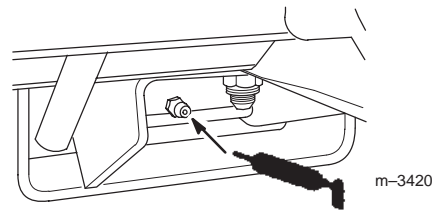

Figure 35
6. Grease the fitting on the brake pedal (Fig. 35).